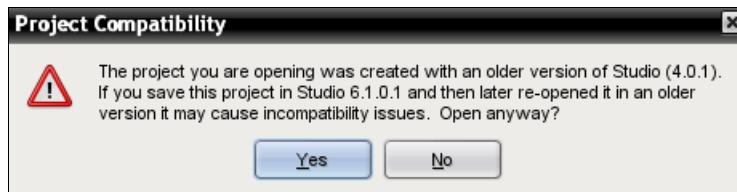

Figure 10-4 TIP version warning message
5. Click **Download**, and save the TIP to a place of your choice. A warning displays, as shown in Figure 10-4. Click **Yes** to open the TIP anyway.